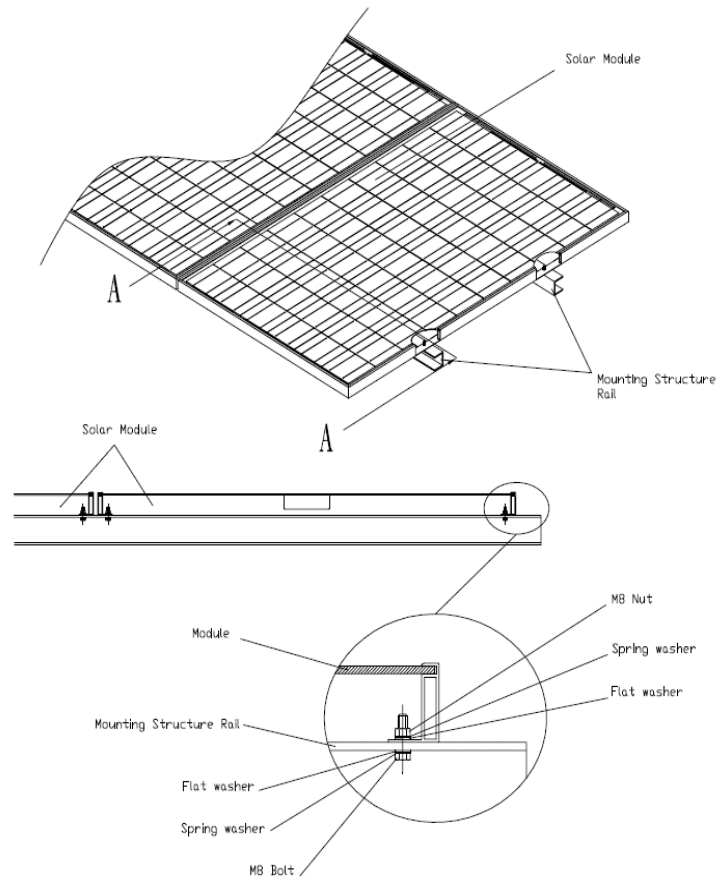

Figure 1. Installation
- ◆We recommend installation methods shown in Figure 1. In some areas, local electrical codes may govern the installation and use of PV modules.